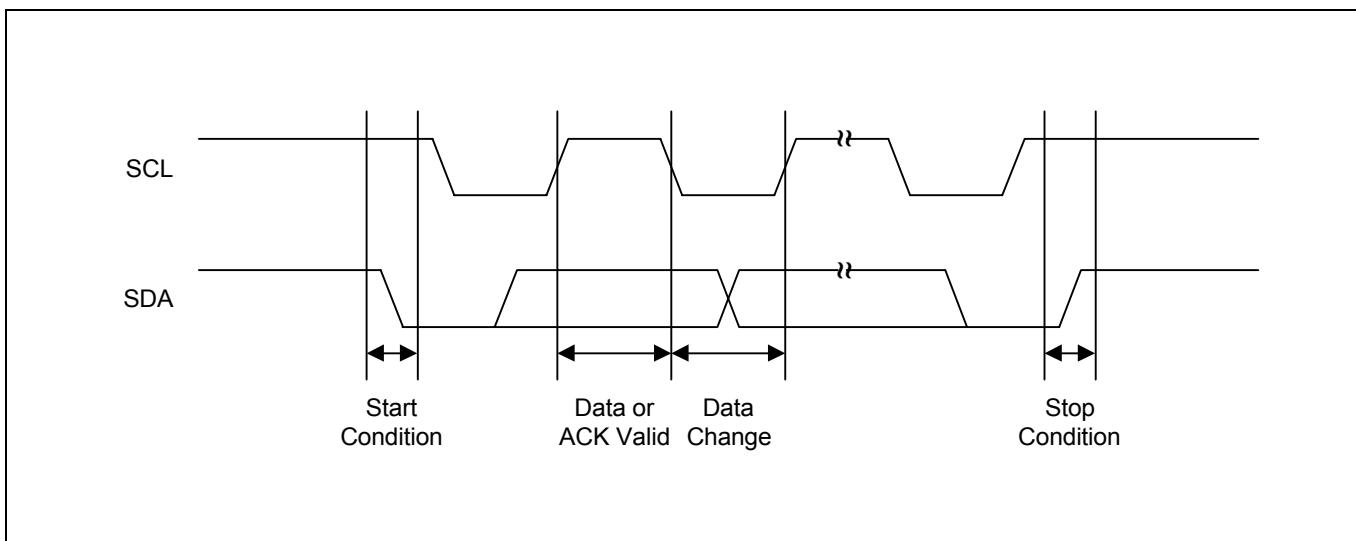

Figure 1-7. Data Transmission Sequence
- Stop condition: A stop condition is initiated by a Low-to-High transition of the SDA line while SCL remains High level. All bus operations must be completed by a stop condition (see Figure 1-7).